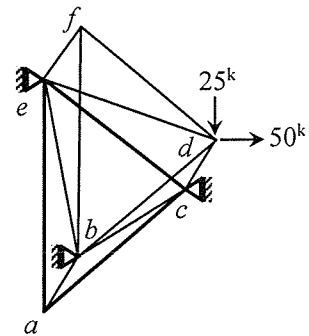

Fig.3
- Ignore zero-force members of the space truss *abcdef* shown in Fig.3 and apply boundary conditions to formulate stiffness matrix and load vector.